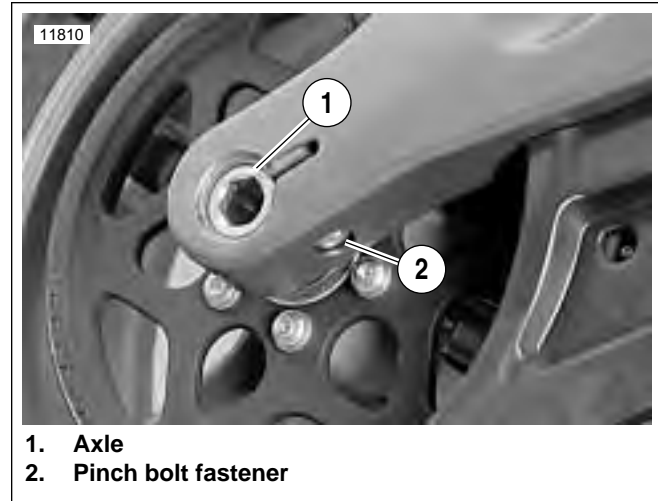

Figure 2-82. Rear Wheel Mounting, Right Side
1. See Figure 2-82. Loosen rear axle pinch fastener (2).
2. Loosen rear axle (1) approximately 15 rotations to allow partial tension to be removed from rear drive system.